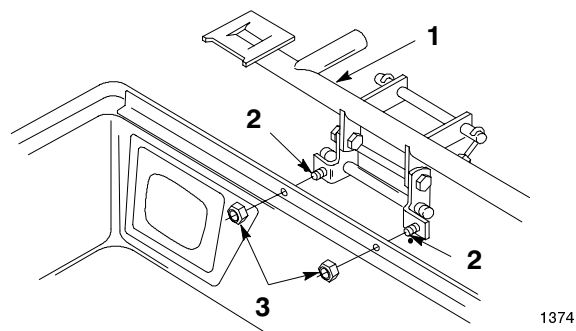

Figure 12
- Mount the frame hinge to the cover with the (2) 1/4" bolts attached to it. Secure with (2) 1/4" lock nuts (Fig. 12).